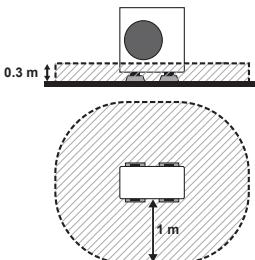

Fig. 3-2
- (1) When installed in a location with an open around (Fig. 3-2)